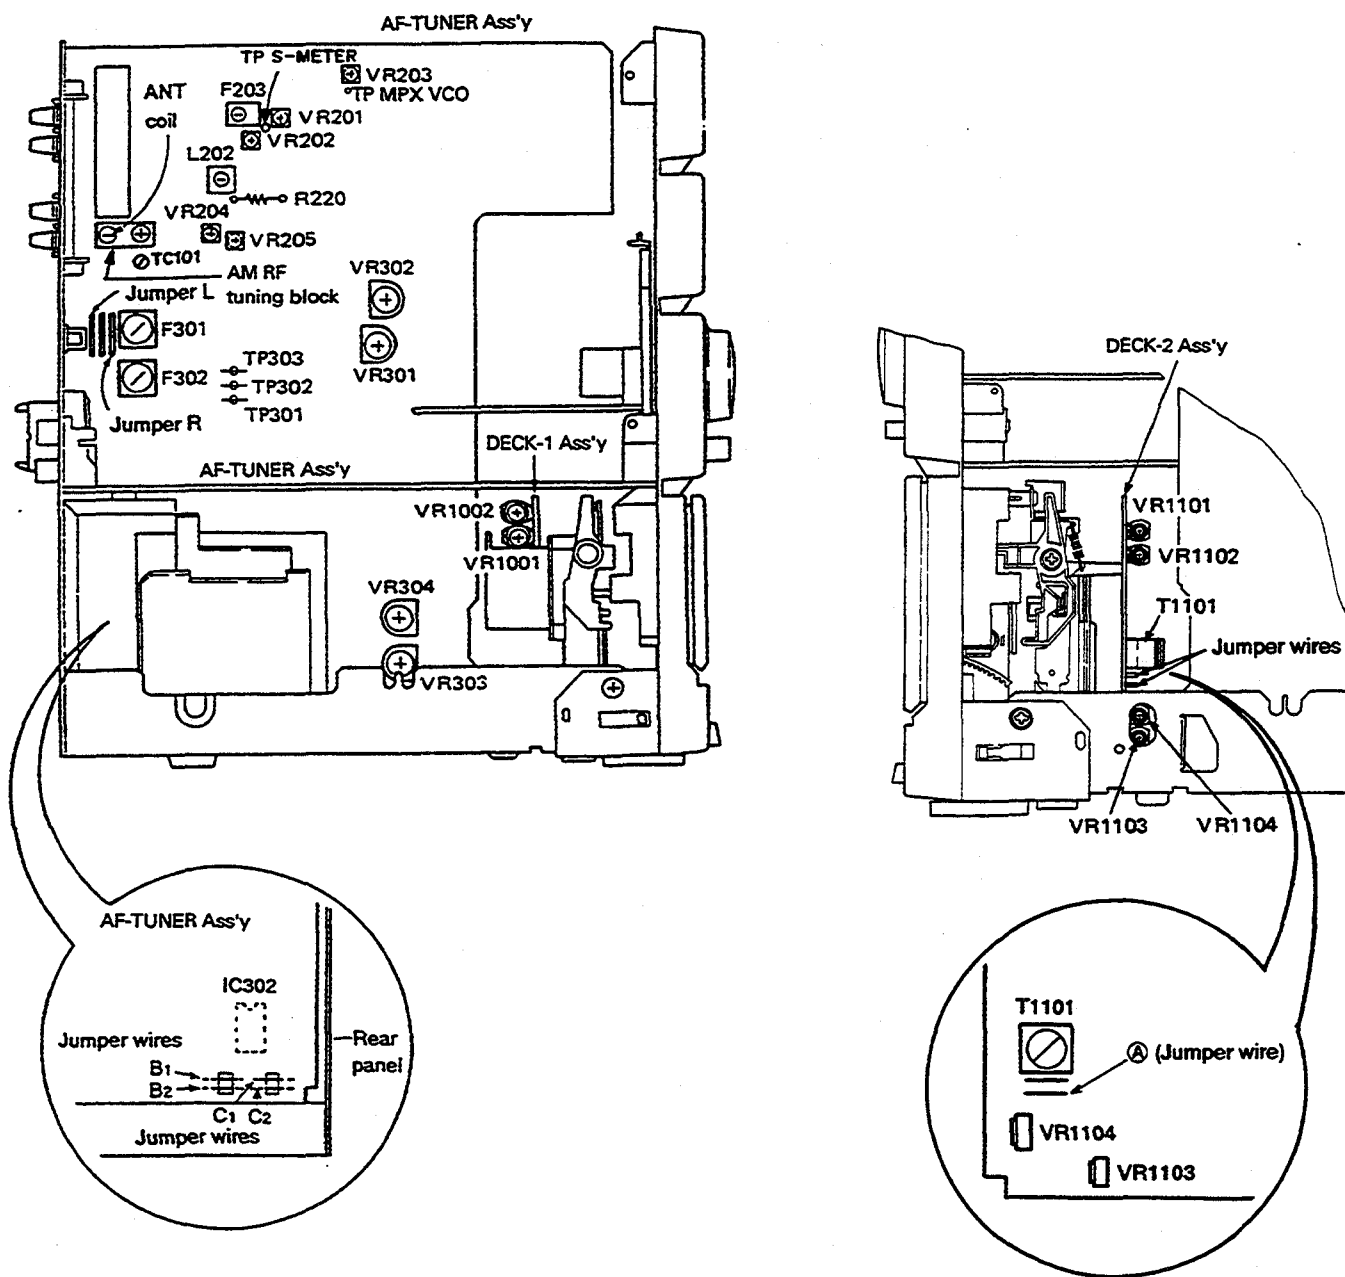

Fig. 6-3. Adjustment Points and Test Points
- Refer to Fig. 6-3. for adjustment test points and controls.
- Adjustment points and test points are shown in Fig. 6-3.
Note: To make frequency response of the phone equalizer flat, perform the following adjustment items 2 to 4 with connecting B1 to B2 and C1 to C2 in Fig. 6-3 respectively.
Deck II	Between the ② point in Fig. 6-3 and GND